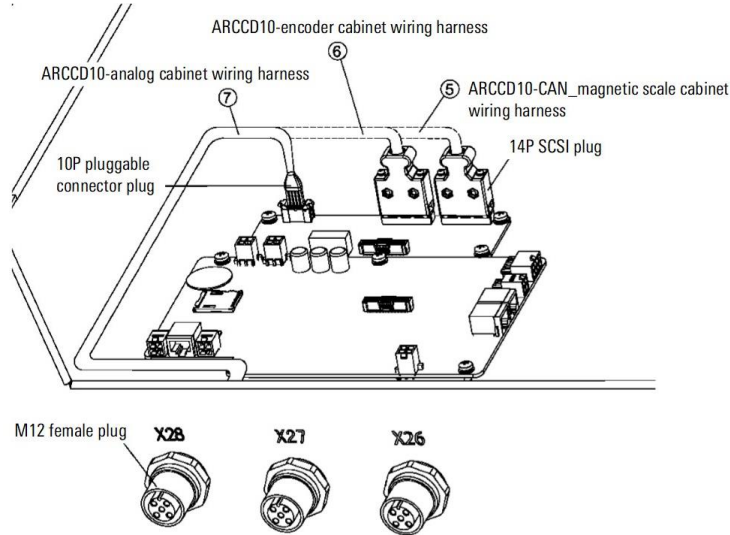

Figure 2-3 MCB-IEB cabinet inner wiring diagram
Step4. Connect the cables inside the cabinet according to the functions used, as shown in Figure 2-3:
- a) Use the ARCCD10-CAN\_magnetic scale signal, connect the J6 interface of the coupled ① MCB-IEB on the wiring harness side of the ⑤ ARCCD10-CAN\_magnetic scale cabinet, The other side is installed to the X28 interface on the control cabinet panel;
- b) Using incremental encoder signals, install the J7 interface of coupled ① MCB-IEB on one side of the ⑥ ARCCD10-encoder cabinet wiring harness and the other side to X28 interface on the control cabinet panel;
- c) Using ARCCD10-analog signal, install the J5 interface of coupled ① MCB-IEB on one side of the ⑦ ARCCD10-analog cabinet wiring harness and the other side to the control X28 interface on the cabinet panel.